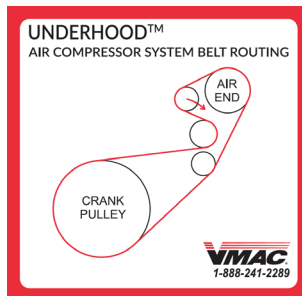

Figure 64 — Belt routing decal
- Install the VMAC belt routing decal in a suitable location under the hood (Figure 64).